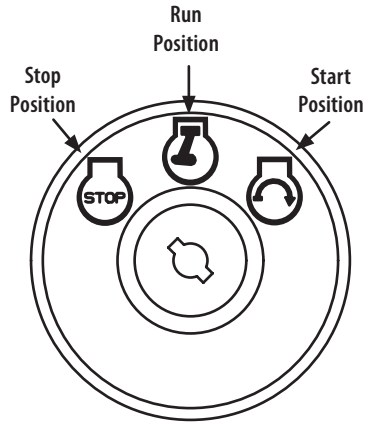

Figure 4
6. Turn the ignition key clockwise to the START  position (Figure 4). After the engine starts, release the key. It will return to the NORMAL MOWING  position.
1. Wipe around dipstick cap and tube with a clean cloth to remove any debris (Figure 4).